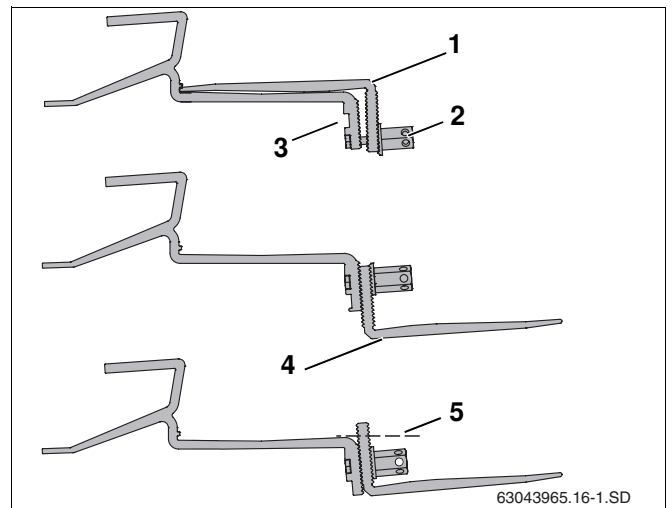

Fig. 14 Fastening roof hooks to joists
With some roof coverings it may be necessary to pack the lower part of the roof hook (Fig. 14, **Item 4**) with boards so that the upper part of the roof hook lies on top of the tile.
- Loosen the long hexagon nut (Fig. 14, **Item 2**).
- Insert bolt into upper hole (Fig. 14, **Item 3**).
- Loosely fasten lower part of roof hook (Fig. 14, **Item 1**). Do not tighten the connection yet.